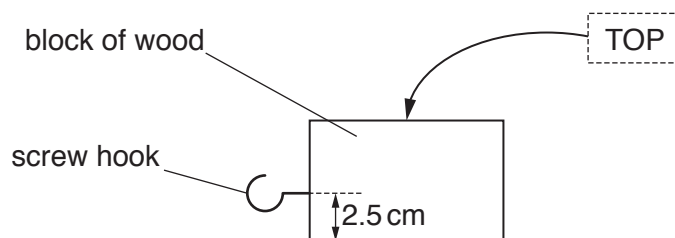

Fig. 2.1
- 1 The block of wood should have flat faces. Screw the hook into one of the smaller faces as shown in Fig. 2.1. Label the block with the word TOP on the face shown in Fig. 2.1.